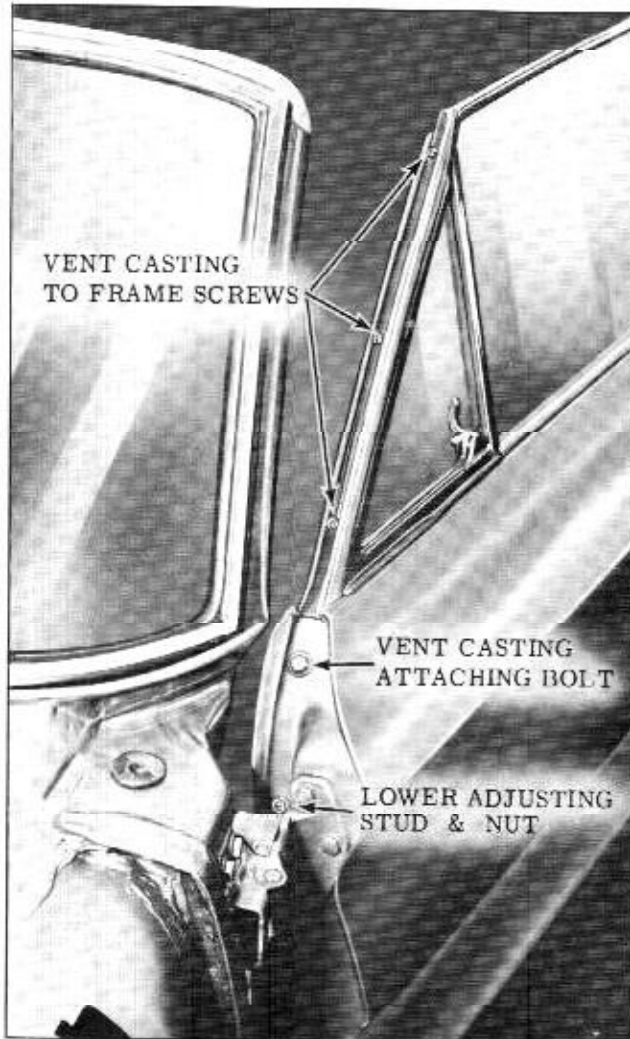

Fig. 15-15 Front Door Ventilator Casting
2. Remove three ventilator casting to ventilator frame attaching screws and remove casting from door. (Fig. 15-15)